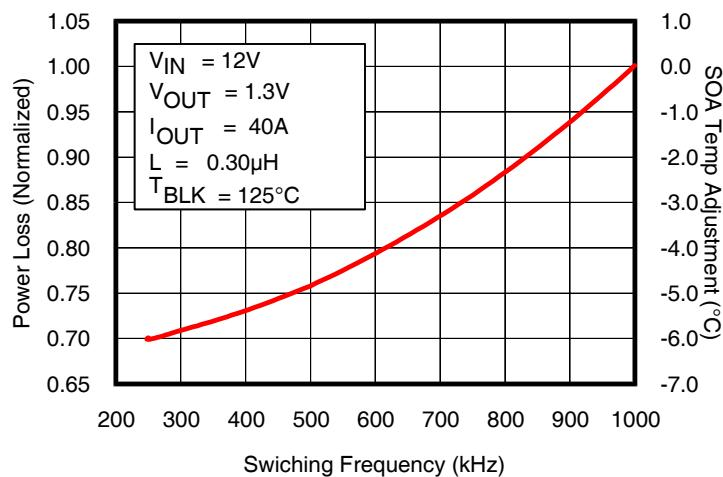

Fig. 5: Normalized Power Loss vs. Frequency
- (Fig. 5) Normalized power loss for frequency  $\approx 0.94$
- (Fig. 5) SOA Temperature Adjustment for frequency  $\approx -1.2^{\circ}\text{C}$